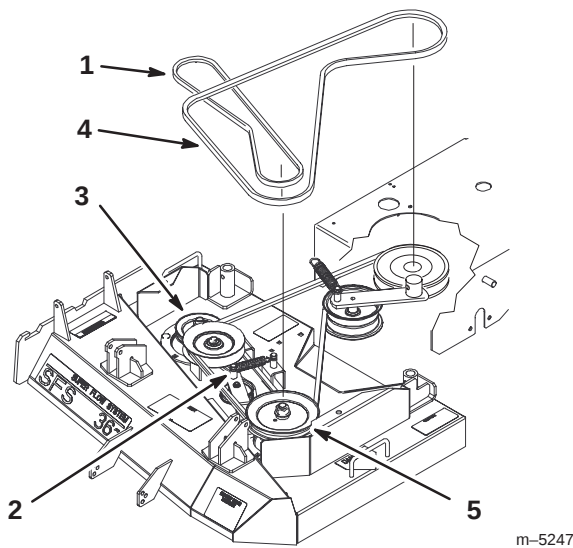

Figure 56
5. Disconnect the idler arm spring to relieve tension on the idler arm and idler pulley, then remove the worn deck belt (Fig. 56).
6. Install the new deck belt around the outward spindle pulley, the idler pulley, and in the lower groove of the double spindle pulley (Fig. 56).
7. Reconnect the idler arm spring (Fig. 56).
8. Adjust deck belt guide an 1/8 in. (3 mm) from belt (Fig. 56).